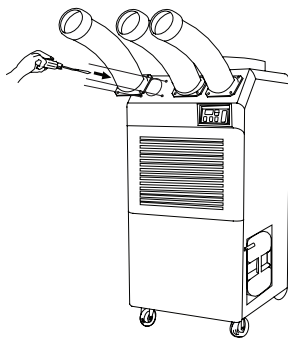

Figure 3
3. Use screws (enclosed inside of box with cool air outlet hose(s) to install the cool air outlet hose(s) on the air conditioner as shown in Figure 3.